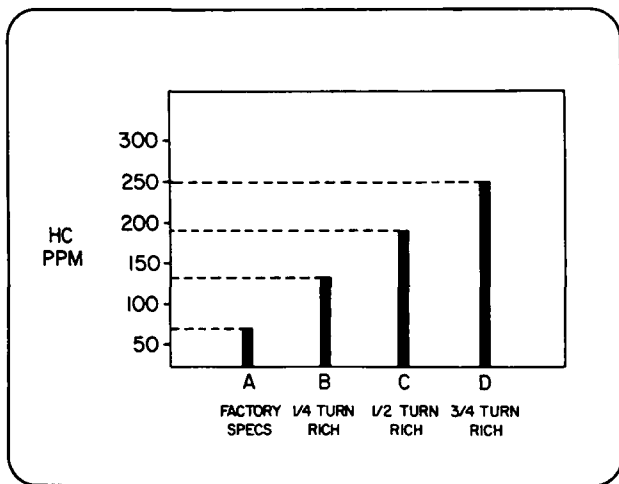

Figure 3-2
- a) Point A in Figure 3-2 shows the HC readings when the carburetor is set according to factory specifications. This setting had HC emissions of 70 PPM.